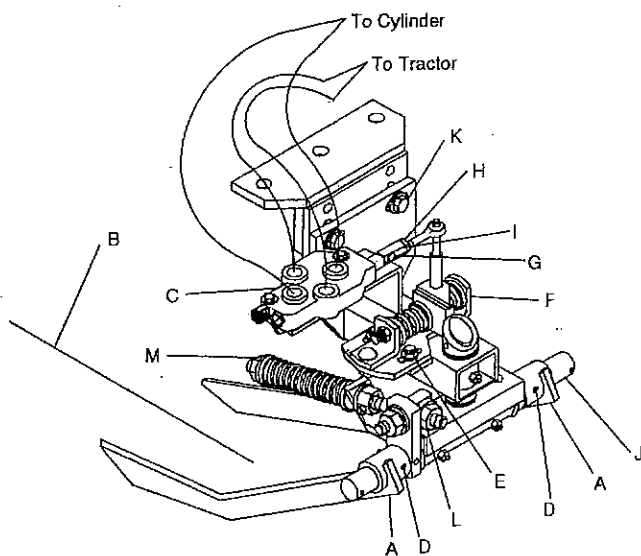

FIGURE 19 - ROW FINDER
The optional row finder helps keep your harvester on the rows. The feeler arms (A) (see Figure 19, page 16) rest astride the row (B) and follow the line of beets - sensing any change in the direction of the row or the position of the harvester. Sideward movement of a feeler arm actuates the hydraulic valve (C), which controls oil flow to the beet harvester steering cylinder.
1. FEELER ARM SPACING (See Figure 19)
2. FEELER ARM CENTERING (See Figure 19)
3. ROW FINDER HEIGHT (See Figure 19)
4. FEELER ARM DOWN PRESSURE (See Figure 19)
5. STEERING CYLINDER (See Figure 19)